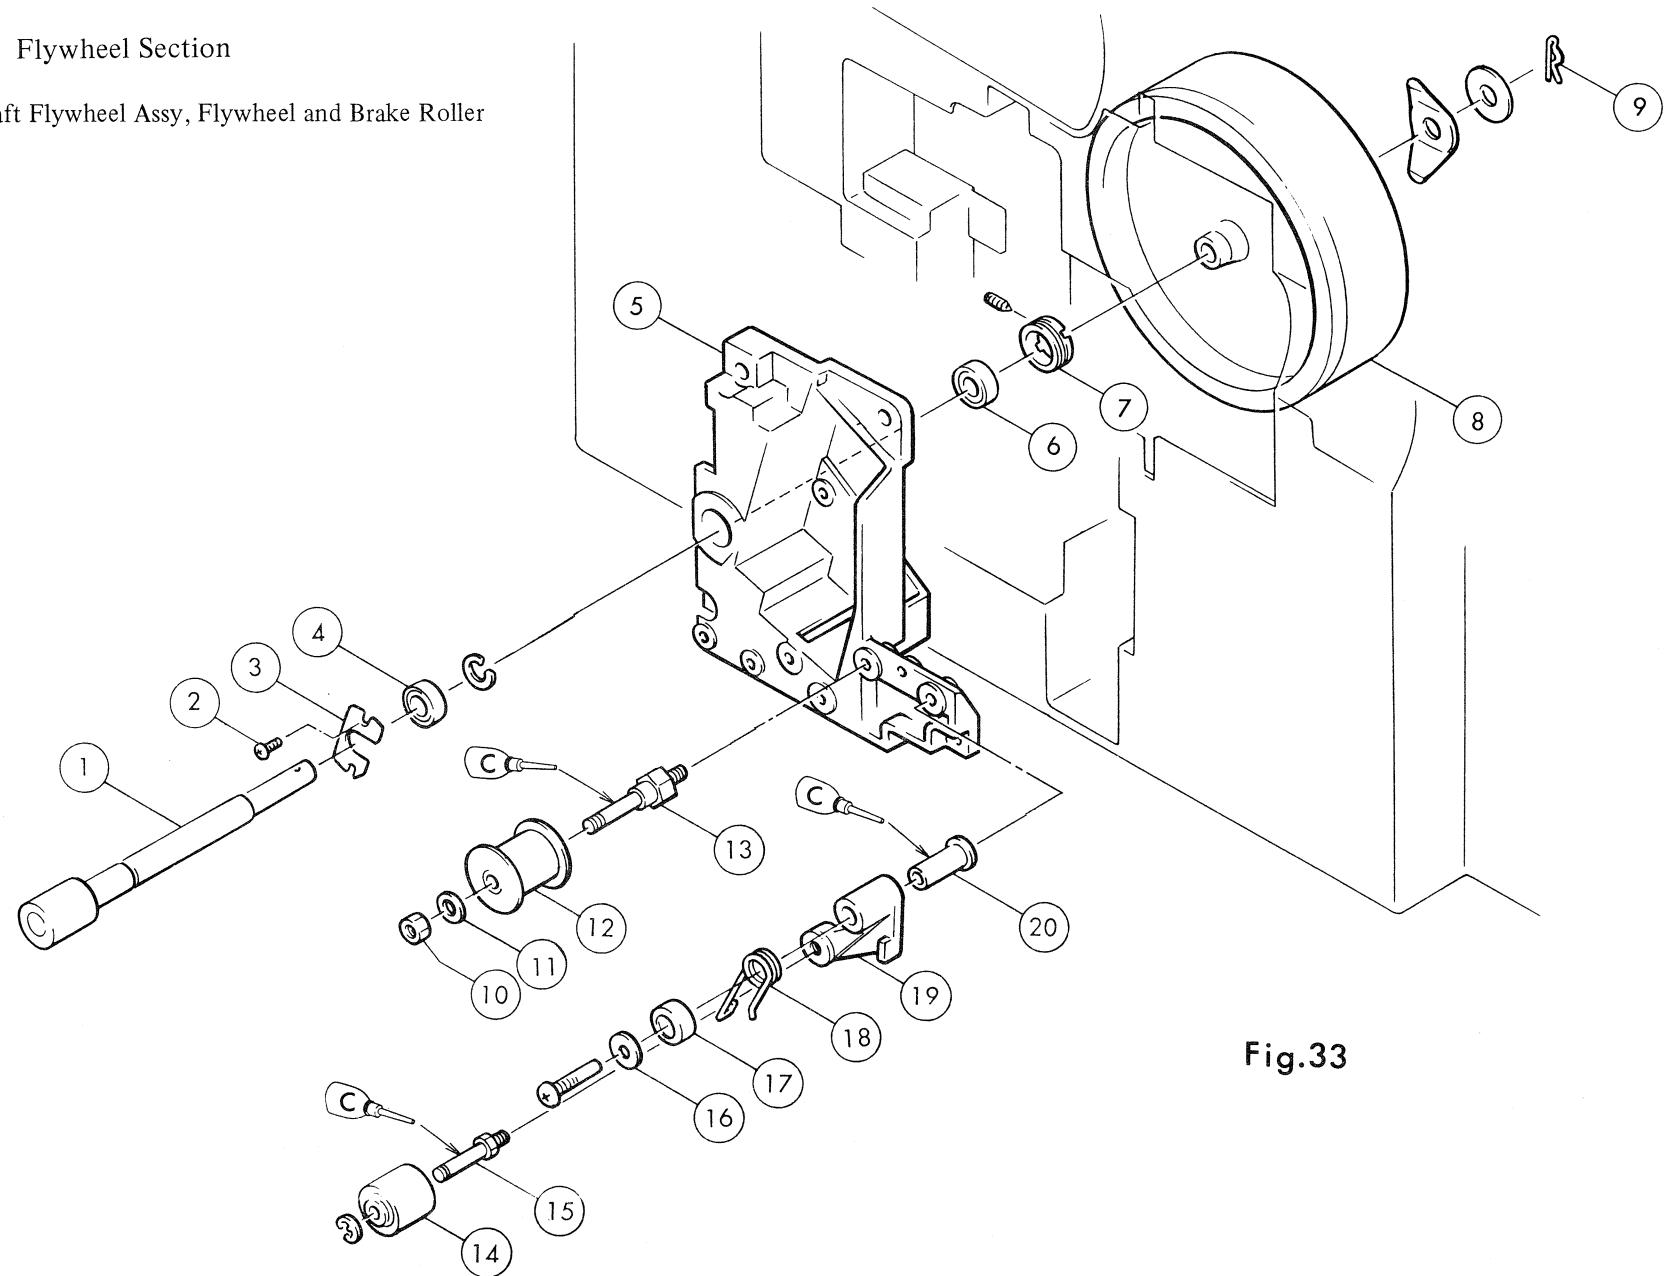

Fig.33
1. Refer to Fig. 33 for disassembly of ⑫ and ⑭.
2. Take out ⑨ to pull out ⑧.
3. Unscrew ② and remove ③ before pulling out ①.
- 1) Remove the rear cover to remove the flywheel. (See Fig. 33.)